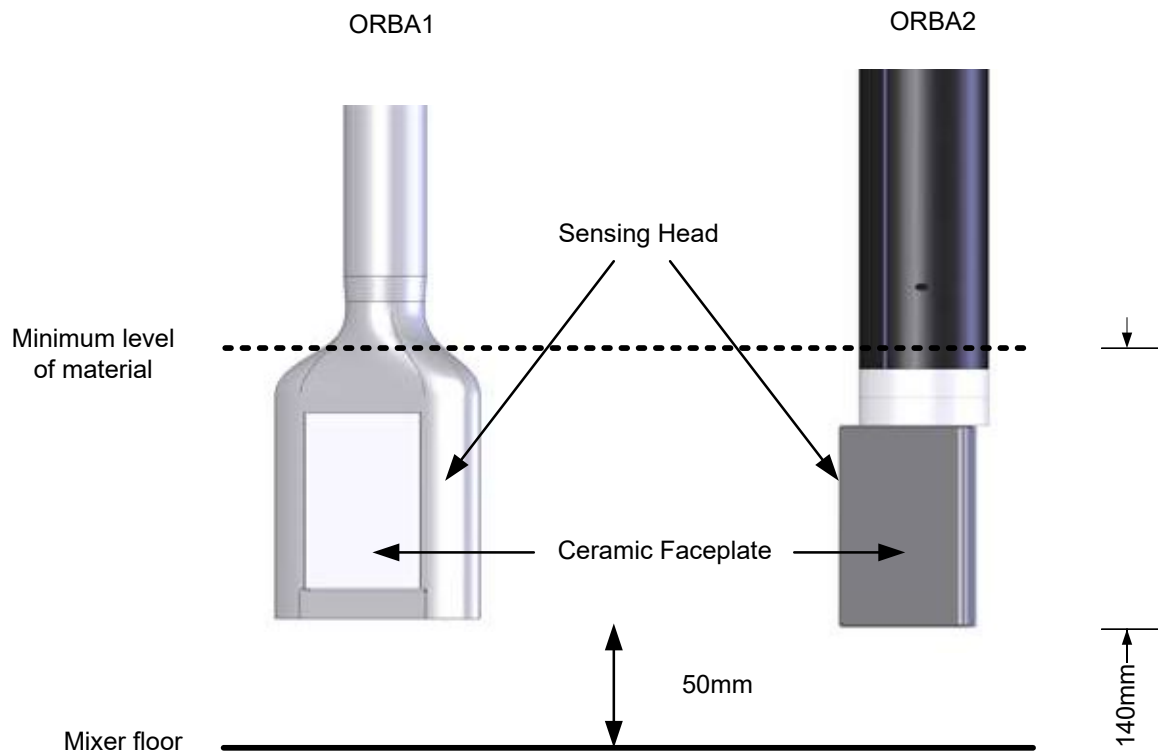

Figure 5: Height setting of the Sensing Arm
- The Sensing Arms are available in multiple lengths. The sensor should be mounted such that there is a 50mm gap between the underside of the Sensing Arm and the mixer floor (Figure 5)
The recommended height for typical applications is 50mm above the floor of the mixer (Figure 5). This height can be set using the Angle Aligner, which has a width of 50mm.